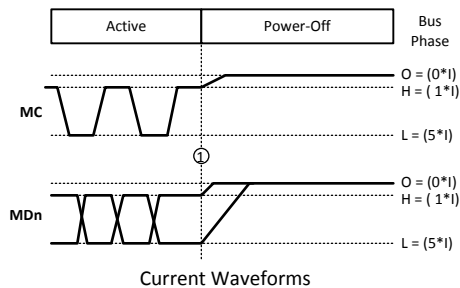

Figure 10. Bus Power Down Timing
(1) Typical values are given for V_{DDIO} = 1.8V and V_{DD} = V_{DDA} = 1.8V and T_A = 25°C.
(2) 1 UI is the serial data MD pulse width = 1 / 8xPCLK (3 MD lanes), 1 UI is the serial data MD pulse width = 1 / 12xPCLK (2 MD lanes)
(3) This is a functional parameter and is specified by design or characterization.
(4) Enable Time is a complete MPL start up comprised of t₀ + t₁ + t₂ + t₃ + t₄.
(5) Specified functionally by the I_{DDZ} parameter. See also Figure 10.
In the OFF phase, MPL transmitters are turned off with zero current flowing on the MC and MDn lines. Figure 10 shows the transition of the MPL bus into the OFF phase. If an MPL line is driven to a logical Low (high current) when the OFF phase is entered it may temporarily pass through as a logical High (low current) before reaching the zero line current state. The link may be powered down by asserting both the SER's and DES's PD* input pins (Low) or by stopping the PCLK (DES dependant). This causes the devices to immediately put the link to the OFF Phase and internally enter a low power state.